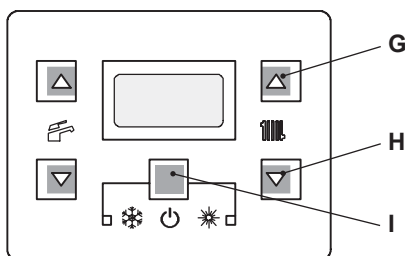
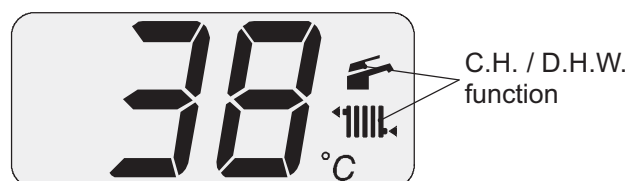

Figure 11.5
Figure 11.10
- 16 To enter in the parameters setting mode press sequentially and hold in the 3 keys ("G - H - I" Figure 11.5) for 10 second until the display shows Figure 11.6.
- 17 Press keys "G" and "H" (Figure 11.5) at the same time until the display shows the letters LP that alternate with the heating water temperature value (e.g. 45), indicating the activation of the "chimney sweep function" at minimum output (Figure 11.7).
- 24 Press keys "G - H - I" (Figure 11.5) at the same time again to exit the "chimney sweep mode" and return to the previously set boiler status (Figure 11.10);